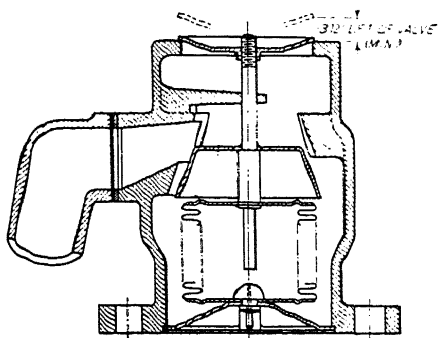

Fig. 1.—CONICAL SHUTTER-TYPE THERMOSTAT
*Note.*—Various methods are adopted for closing the by-pass—the sliding-shutter method being shown in Figs. 1 and 2. A more positive